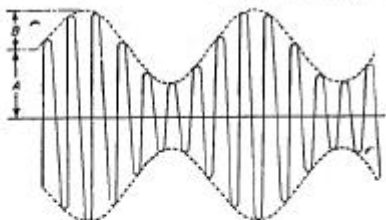

Fig. 52.—The form of the modulated carrier wave.
Now, as soon as the transmitter commences to radiate a programme the oscillations at the receiver take on a complicated character. Superimposed upon them are the sounds picked up by the microphone and this causes a variation of the amplitude (see Fig. 52). This variation is continually changing throughout the broadcast according to the volume of the sound, and the nature of the instrument or voice creating it. Fig. 52 is a case of modulated H.F. oscillations which is comparatively simple. It will be seen that the amplitude variation follows a simple sine-wave curve and this would be the kind of modulation produced if the sound controlling the transmitting microphone was of a single frequency. The dotted curves in Fig. 52 are known as the *modulation envelope*. If A in Fig. 52 represents the amplitude of the carrier oscillation when unmodulated, then the depth of modulation is given by the ratio B/A. If the unmodulated voltage amplitude in one of the receiver circuits is 1 volt, then with 50 per cent. modulation the amplitude would rise and fall at modulation frequency between the extreme of 1.5 volts and 0.5 volt, whilst at 100 per cent. modulation the extremes would be 2 volts and zero.
**Sideband Frequencies.**—Again referring to Fig. 52, suppose the carrier frequency is F cycles per second and the modulation frequency M cycles per second, it must not be assumed that the modulated oscillations are the result of these two components which one might at first suppose. An
analysis shows that three unmodulated components together make up a resultant of the form shown in the illustration. The three components are all of high frequency and the relative frequency values are:  $F$ ,  $F + M$ , and  $F - M$ . Whether we refer to the oscillation in terms of the graphical interpretation of Fig. 52, or whether we substitute the idea of the three unmodulated component oscillations, we are really dealing with the same thing. With modulation of the normal broadcast kind, there is not just a single modulation frequency to consider but a range of them. This means, in effect, that the radiation of a broadcast transmitter spreads over a band of frequencies from  $F + M$  to  $F + m$ , and from  $F - M$  to  $F - m$ , where  $M$  is the highest modulation frequency used and  $m$  is the lowest.